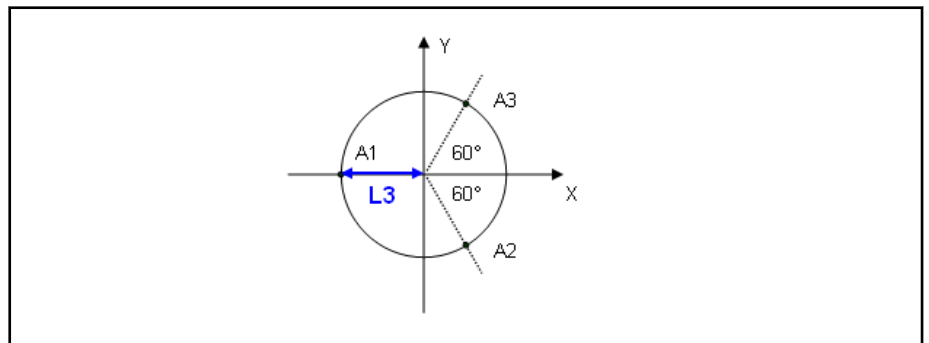

Fig. 4-20: Radius L3 of the motor base and the coordinate system (X-Y view)
- L_3 is the radius of the perimeter formed by the three motor spindles (or gears) measured at the rotary center points of the arms (see fig. 4-20 "Radius L_3 of the motor base and the coordinate system (X-Y view)" on page 131).
- The Cartesian zero point for the delta robot is at the center point of the perimeter defined by the three motor spindles (see also fig. 4-20 "Radius L_3 of the motor base and the coordinate system (X-Y view)" on page 131).